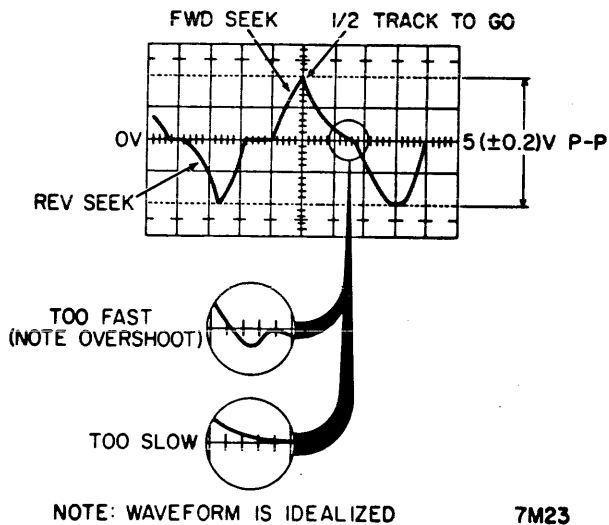

Figure 3-9. Fine Position Gain Waveform
Figure 3-9 is an idealized waveform. Theoretically, the waveform should settle out at zero volts; however, an overshoot knee is likely. Adjust for proper voltage without regard to amount of overshoot. Problems could occur if the overshoot exceeds 400 millivolts.
5. Observe waveform similar to Figure 3-9. Adjust for peak-to-peak signal of 5 (± 0.2) volts. If not, adjust pot on C30 for proper amplitude